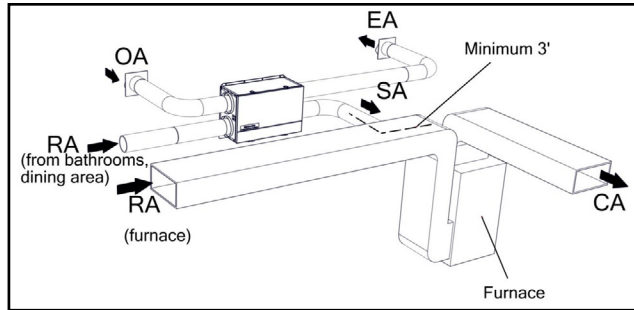

FIGURE 2.4.0 SEPARATE ROOM AIR PICK-UP—SUPPLY AIR TO FURNACE RETURN AIR TRUNKLINE
• FOR HOUSES WITH DUCTED HEATING OR COOLING SYSTEMS—SEE FIGURES 2.4.0, 2.4.2, AND 2.4.3.
• FOR INSTALLATIONS THAT COLLECT STALE AIR FROM SPECIFIC ROOMS IN THE HOME—SEE FIGURES 2.4.0 AND 2.4.1.
A RenewAire ERV can be used as a central exhaust system in place of bathroom exhaust fans. Tie a grille in each bathroom directly back to the ERV—see Figure 2.4.0. A successful installation should provide at least 50 CFM of exhaust per moisture producing bathroom. When used for bathroom exhaust, the EV130 should be used for no more than two bathrooms, the EV200 and EV240 for up to four bathrooms and the EV300 for up to six bathrooms. Install a control in each bathroom ventilated by the ERV.